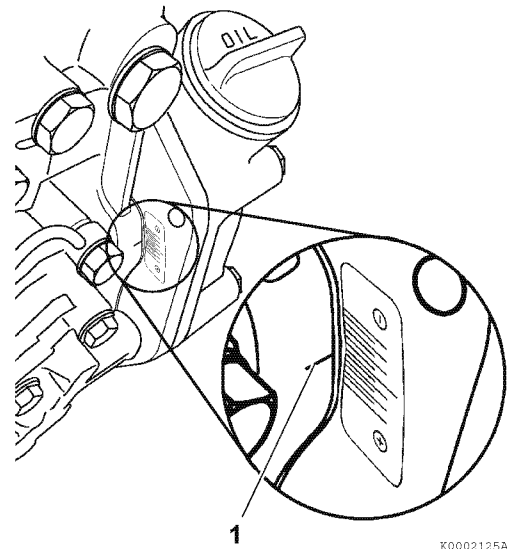

Figure 7-26
In this case, rotate the top of the fuel injection pump away from the cylinder block until the mark on the outside upper mounting boss (**Figure 7-26, (1)**) of the fuel injection pump aligns with the +0.5° mark on the timing sticker.